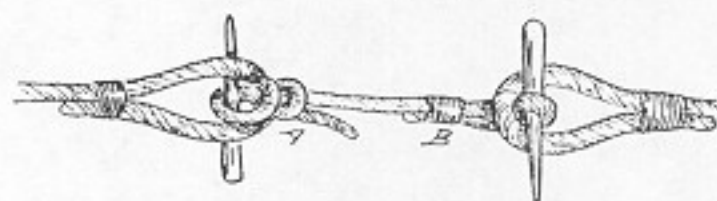

FIG. 100.—Belaying-pin splice.
99). The belaying-pin splice, shown in Fig. 100, is a quick and handy way of fastening two ropes together and is of great value
the lanyard through this and around another toggle or pin and haul taut; then fasten by half-hitches around standing part (A, Fig. 100), or by seizing (B, Fig. 100). This is a strong, reliable fastening and can be tightened up or instantly thrown off at will.